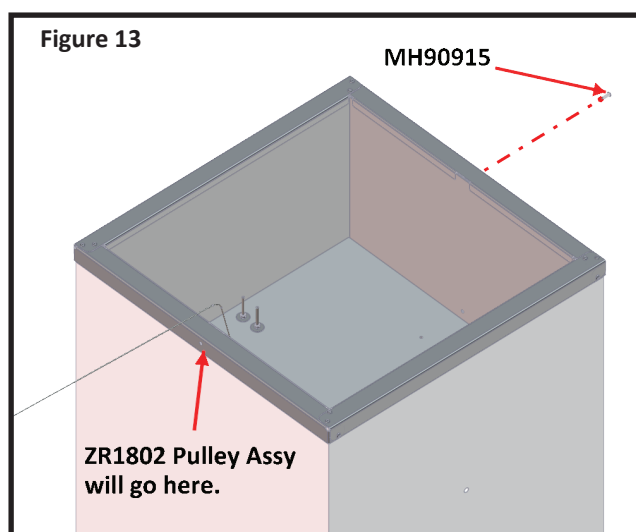

Figure 13
7. Use one (1) #MN90915 self drilling screw to secure the Aluminum Cap to one (1) side of the flue, as shown in Figure 13.